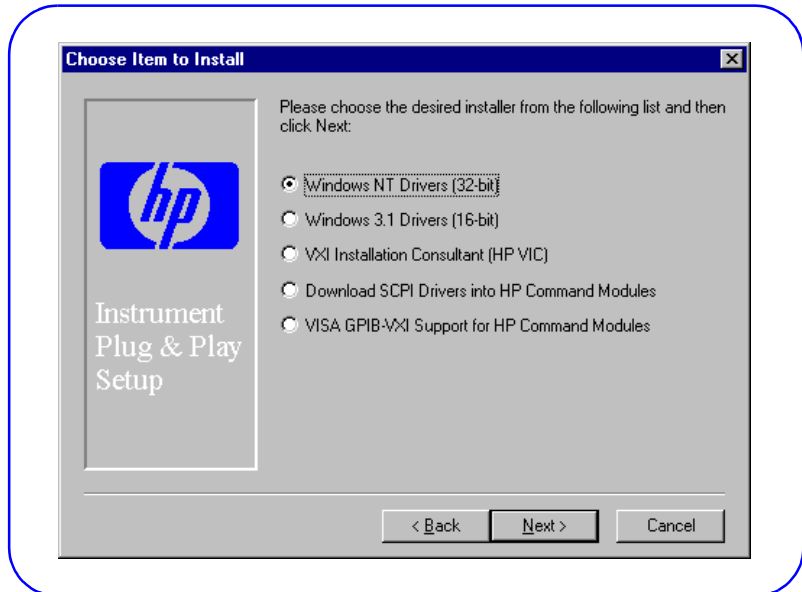

Figure 25. Choose Item to Install Screen
- 4 Select *INSTALL DRIVERS* and choose whether or not to view the *README.TXT* file. Click *No* to display the **Choose Item to Install** screen (see Figure 25).